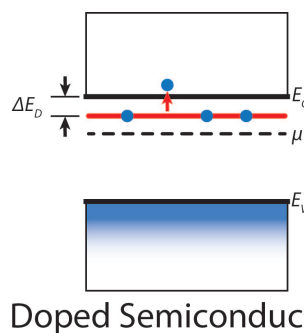

Figure 2: Donors in semiconductors
The more common approach to adjusting the charge carrier concentration in a semiconductor is called **doping**. Each silicon atom in the crystal has **4** valence electrons. When we introduce atoms with a higher number of valence electrons (called **donors**) into the crystal (e.g. phosphorus, **5** valence electrons), the additional electron is just loosely bound. It can be **excited easily** to the conduction band, leaving behind a **positively charged ion**. The situation in the energy diagram is shown in figure 2. Due to the phosphorus atoms, **additional states** are available **within** the band gap, close to the edge of the conduction band. The energetic distance between the additional states and the conduction band edge is $\Delta E_D = 0.044 \text{ eV}$ in the case of phosphorus atoms in silicon.
6. **(20 pts)** In intrinsic semiconductors, the chemical potential can be assumed to be located in the center of the band gap. This is no longer the case when we introduce donor atoms. One might say that the symmetry between conduction band and valence band is broken (see figure 2). Thus, in order to calculate the electron density, we first need to calculate the position of the chemical potential. To do so, we can start from the observation that the total **charge in the semiconductor is conserved in any case**. For every electron in the conduction band there must be either a positive hole in the valence band or a positively ionized donor atom. So: